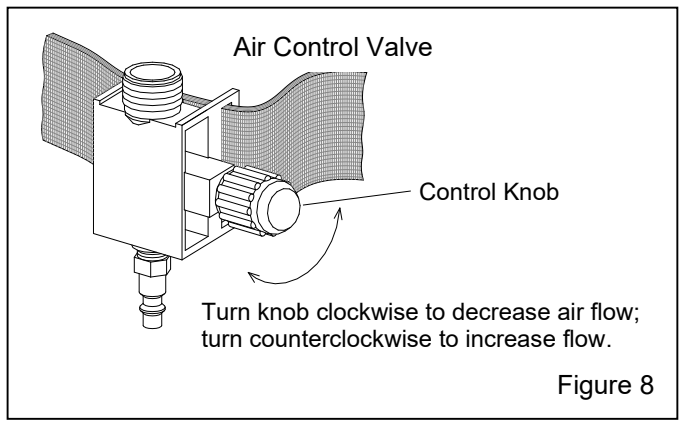

Figure 8
6.3 Air Control Valve, Alternate – Figure 8